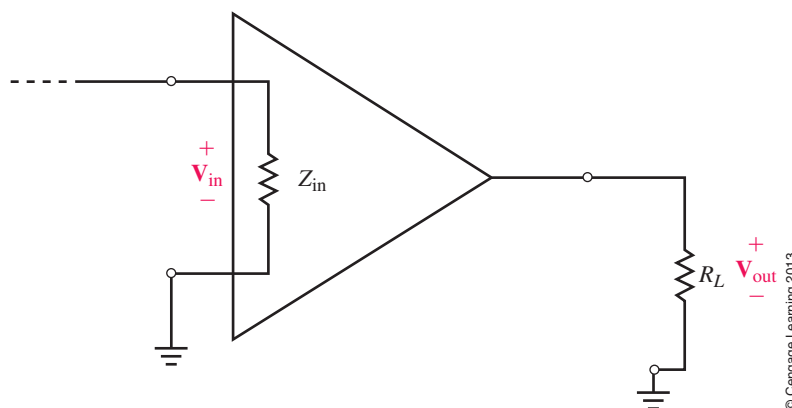

FIGURE 22–47
- Refer to the amplifier shown in Figure 22–47. Determine the power gain both as a ratio and in decibels for the following power values:
- If the amplifier of Figure 22–47 has $Z_{\text{in}} = 600\text{ }\Omega$ and $R_L = 2\text{ k}\Omega$, find P_{in} , P_{out} , and $A_P(\text{dB})$ for the following voltage levels:
3. The amplifier of Figure 22–47 has $Z_{in} = 2 \text{ k}\Omega$ and $R_L = 10 \text{ }\Omega$. Find the voltage gain and power gain both as a ratio and in dB for the following conditions:
4. The amplifier of Figure 22–47 has an input voltage of $V_{in} = 2 \text{ mV}$ and an output power of $P_{out} = 200 \text{ mW}$. Find the voltage gain and power gain both as a ratio and in dB for the following conditions: